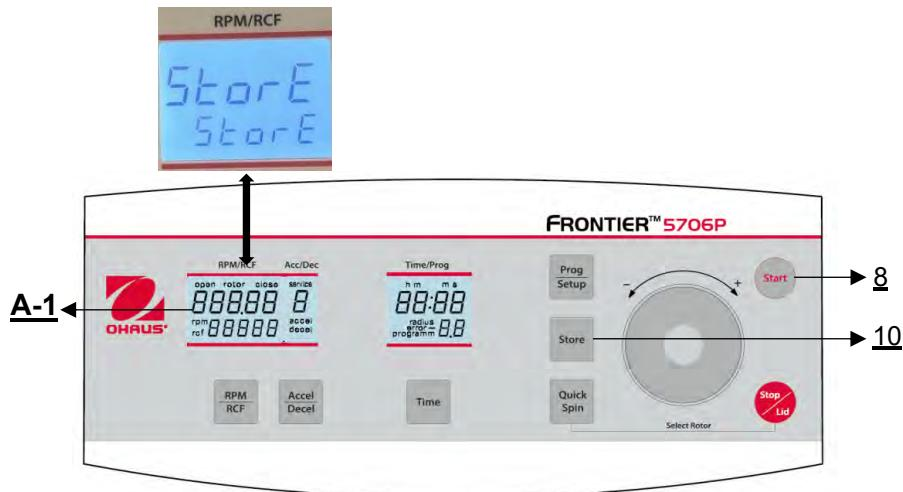

Figure 29
All changed settings must be confirmed by the key **"Start"**(8) or **"Store"** (10). The word **"Store"** appears in the display **"RPM | RCF"** (A-1) – Only then the pre-selections are valid (see **Figure 29**). After you have stored the settings, you can change to normal program mode again by switching off the centrifuge for a short while.